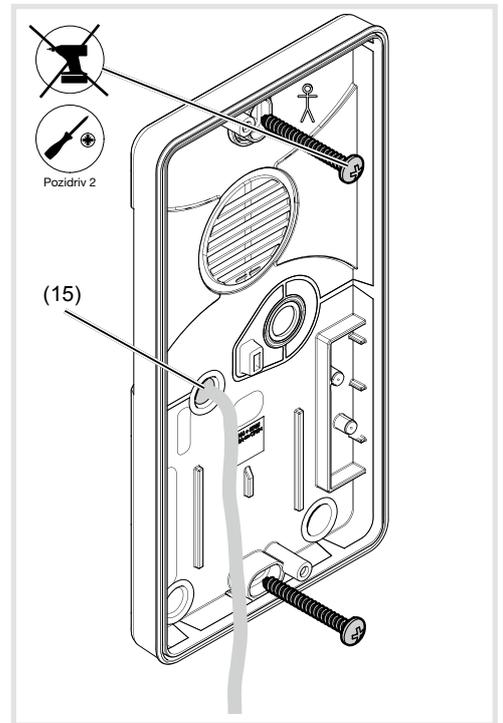

Figure 6: Base fixing
- Using a pointy object (tip, screw, rigid copper wire, etc.), make a hole in the membrane (15) big enough for the cable to go through (figure 6).
- Position the fixing base on the wall in order to determine where the two fixing points should be (figure 6).